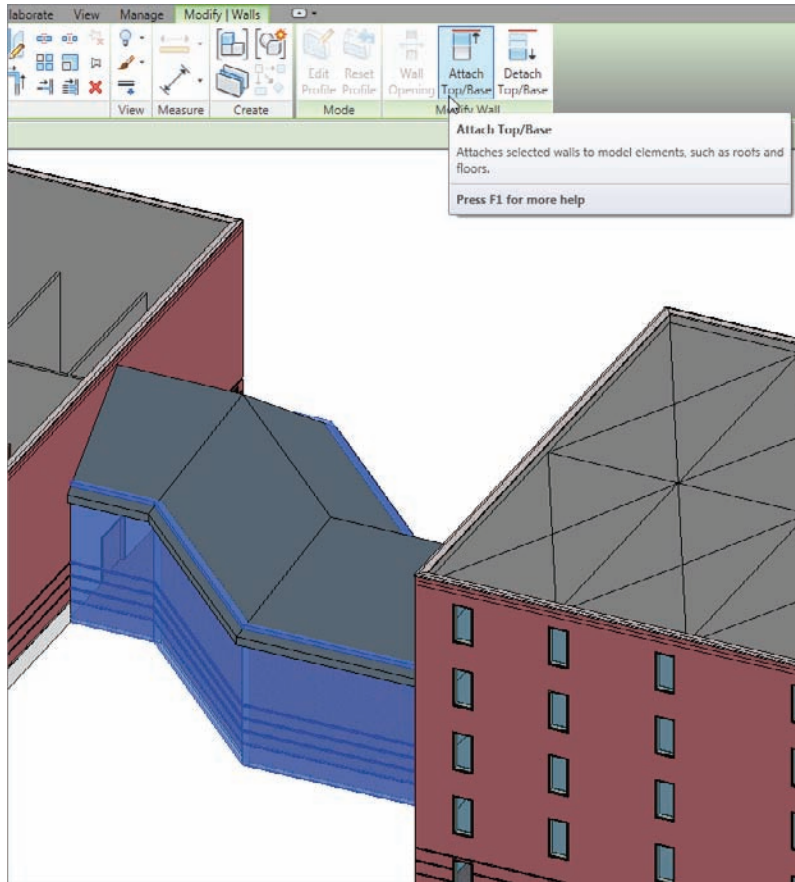

FIGURE 7.32 Attaching the top or the base
2. On the Modify | Walls tab, notice that there is an option to attach the top or base of the wall, as shown in Figure 7.32. Click the Attach Top/Base button.